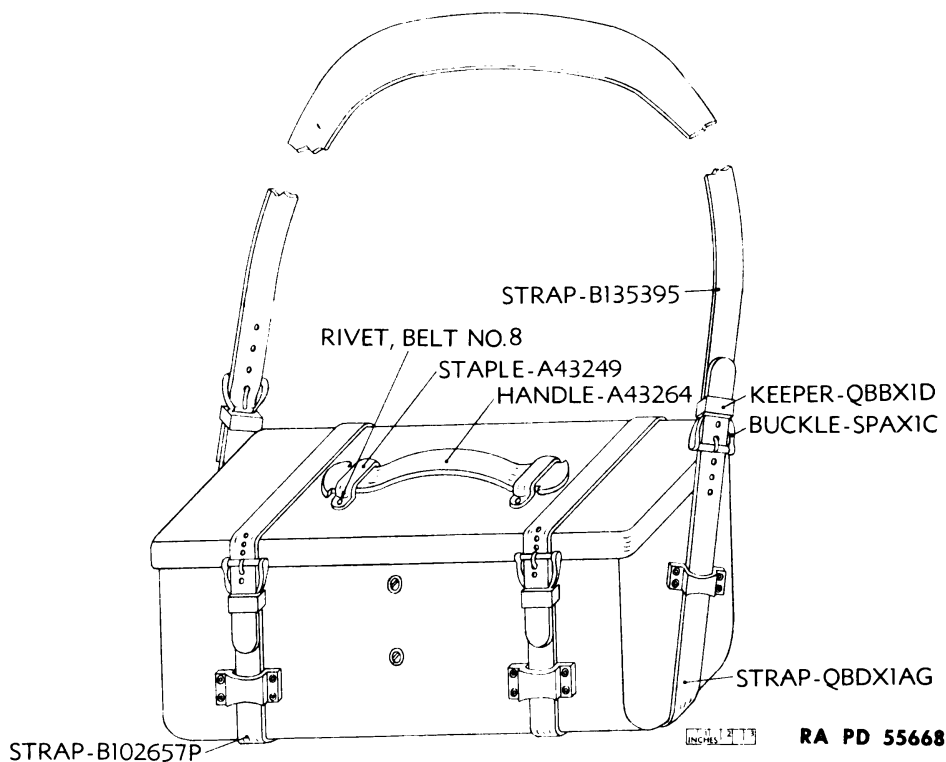

Figure 12—Carrying Case M16 (For Telescope M31)
a. A leather case (fig. 12) is provided for Telescope M31 and the electrical equipment. The case has two leather straps and buckles for securing the cover. A leather handle on top of the cover and leather straps fastened to the ends of the case afford means of carrying by either hand or shoulder.